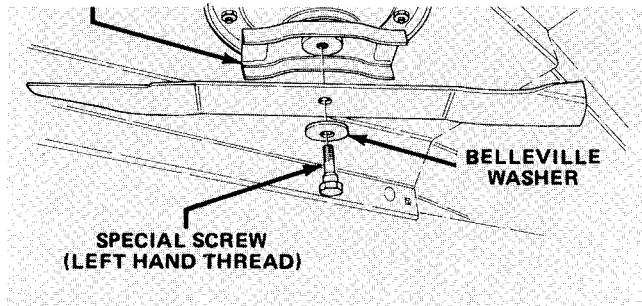

Figure 28
2. Grasp end of blade using a rag or thickly padded glove. Remove special screw, belleville washer and blade from spindle assembly (Fig. 28).